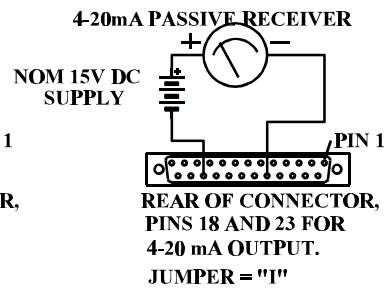

Figure 3
- 4-20 mA passive receivers do not contain a voltage source to power the loop current. They require the addition of a separate isolated power supply. Typically a supply that delivers 15 to 20 volts DC at 50 mA is sufficient. Wire these as in Figure 3. Note that some 12 volt DC wall transformers (as used on portable equipment) may deliver 15 to 20 volts when they are lightly loaded. The CUI/Stack #AD-1220M is a commonly available example of a 12 volt 200mA supply that will deliver around 18 volts nominal when loaded below 20 mA.